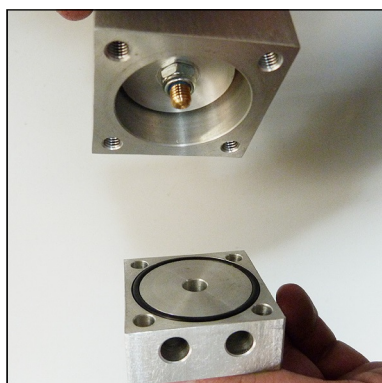

Fig. 3 - Change o-ring
- Change o-ring, previously grease new o-ring (Fig. 3)